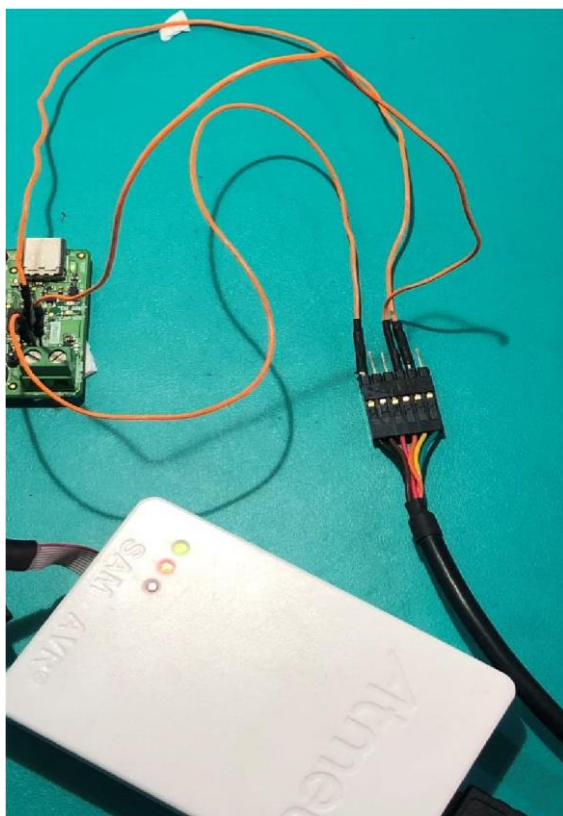

Figure 5.2
2. Connect RX, TX and GND of FTDI cable to Pin 5, Pin 4, and Pin 3 of J4 respectively as shown in the figure 5.2